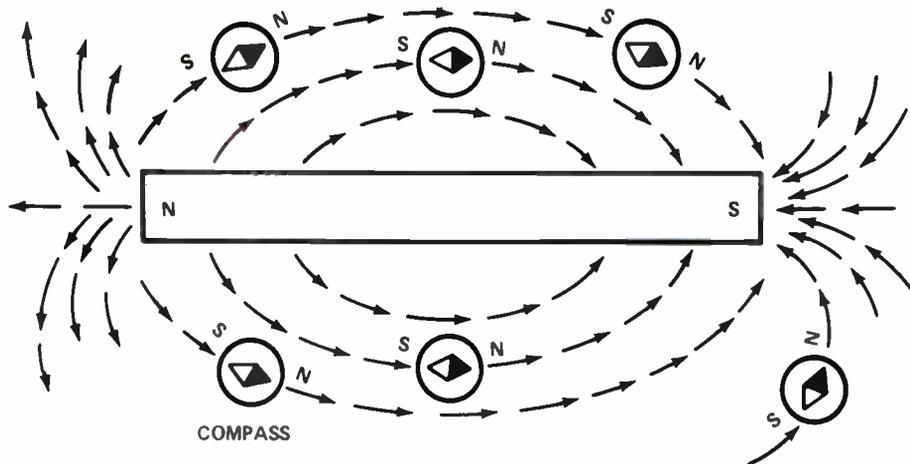

Figure 11. A small compass can be used to trace magnetic lines of force near a permanent magnet.
**Magnetic Lines of Force.** There are lines of force surrounding a magnet. You can trace the lines of force around a magnet by using a small compass, as shown in Fig. 11. When you move the compass near the north pole of the magnet, the south pole of the compass is attracted to it. The compass needle lines up with the magnetic lines of force. As you move the compass, as shown in Fig. 11, you can trace out the lines of force.